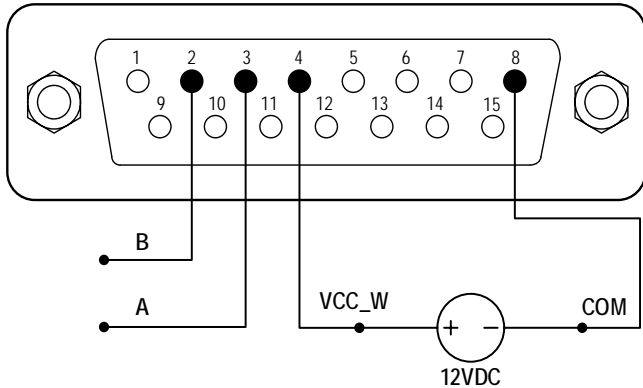

Figure 18. RS485 MODBUS Wiring
- 1) When the power is off, wire the DB15 connector as shown on Figure 18, and connect it to the DB15 port on the rear of the pump. External DC power source is recommend to avoid electrical interference.